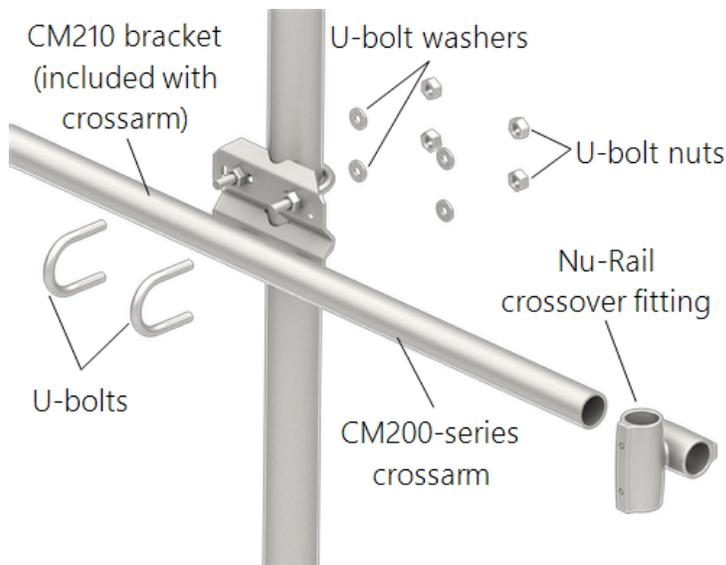
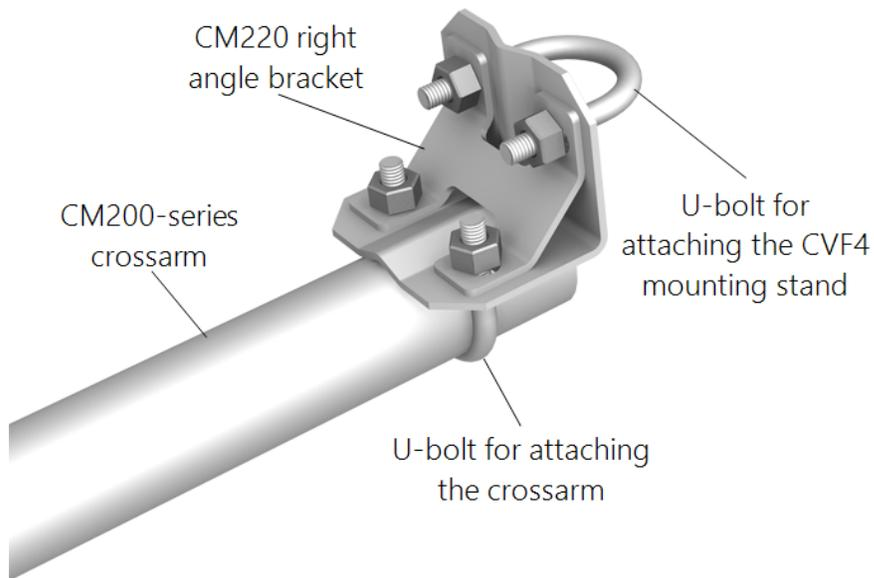

Figure C-4. Crossarm and Nu-Rail crossover fitting mounted to mast (exploded view)
Figure C-5. CM220 right-angle mounting bracket attached to CM200-series crossarm
1. Mount the crossarm to the tripod or tower (Figure C-4 [p. 24]).
2. Attach the CM220 Right-Angle Mounting Bracket (Figure C-5 [p. 25]) or a 1 inch-by-1-inch Nu-Rail Crossover Fitting (Figure C-4 [p. 24]) to the crossarm.